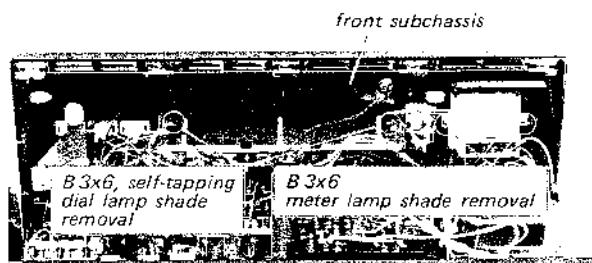

Fig. 2-11. Tuner input meter and dial lamp shade replacement
- Remove the two screws securing the meter lamp shade to the front subchassis as shown in Fig. 2-11.
- Remove the two screws securing the dial lamp shade to the front subchassis as shown in Fig. 2-11.